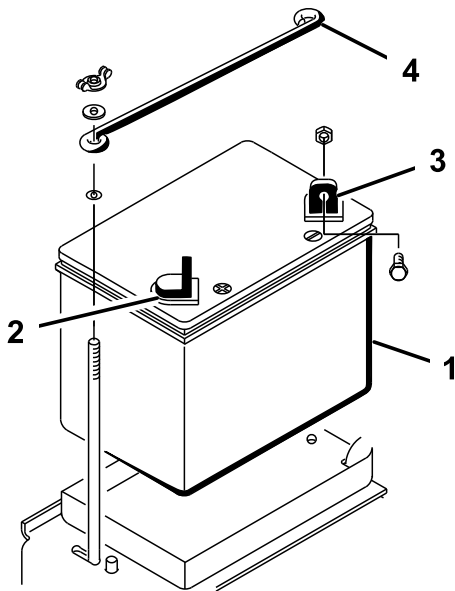

Figure 5
1. Set the battery in place in the tray behind the right wheel, with the negative terminal positioned to the rear of the machine (Figure 5).